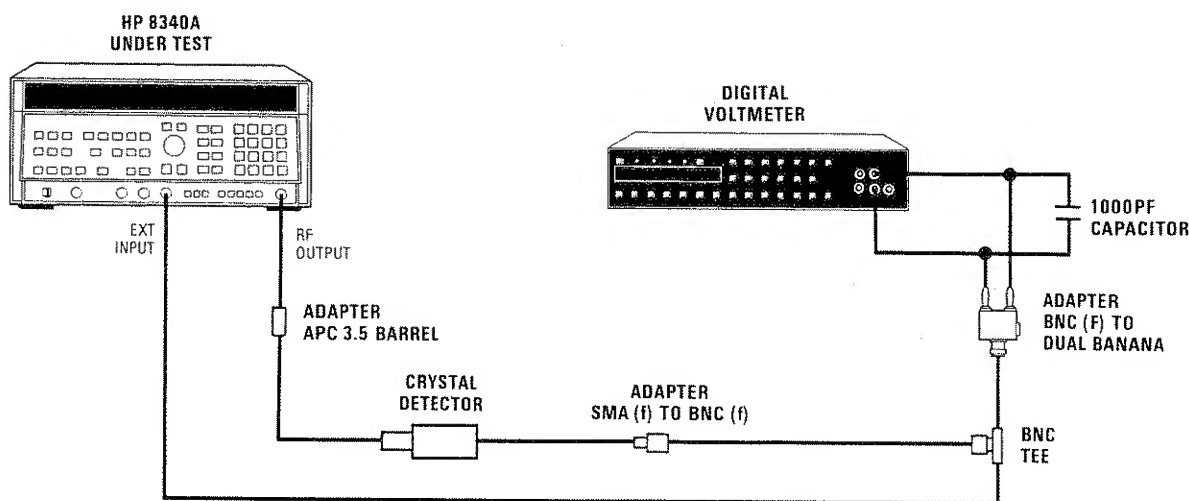

Figure 4-6. External Leveling Test Setup
2. Connect equipment as shown in Figure 4-6 (note 1000 pF capacitor shunting DVM input). Allow the equipment to warm up for 30 minutes.